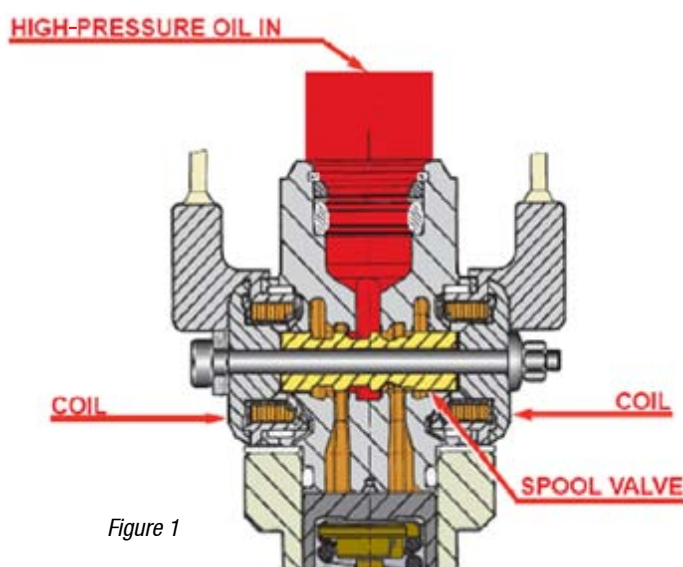

Figure 1
6.0 L INJECTOR SPOOL VALVE OPERATION (refer to Figure 1)
The spool valve is located in a bore in the stator housing; coils and coil housings positioned on both ends of the stator housing serve as end caps to seal the assembly and limit spool valve travel (0.432 mm). An open coil on one side of the stator housing and a closed coil on the other are alternately energized during engine operation to move the valve horizontally. The spool valve has two positions—movement of the valve positions the valve over drillings in the stator housing which either (1) allow high-pressure oil from the oil rail into the injector high-pressure oil pumping chamber, or (2) allow pressure in the high-pressure oil chamber to collapse and oil to exhaust from the injector. Open coil energization allows high-pressure oil into the high-pressure oil pumping chamber; close coil energization allows oil to exhaust from the pumping chamber; when neither coil is energized, the valve will remain where it was last positioned (in Figure 1, below, the close coil is shown on the left side, and the spool valve is in the closed position; also note the gap between the spool valve and the open coil on the right side).